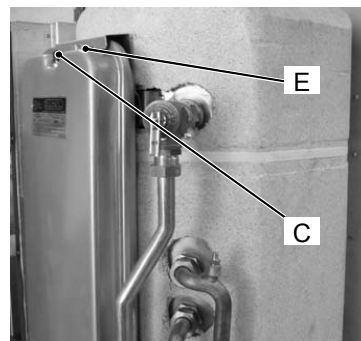

Figure 2
- 2) Remove the protective cap C (Figure 2) from the valve on the top of the c.h. expansion vessel and connect a suitable air pressure gauge.
- 2) Loosen the screw E (Figure 2).